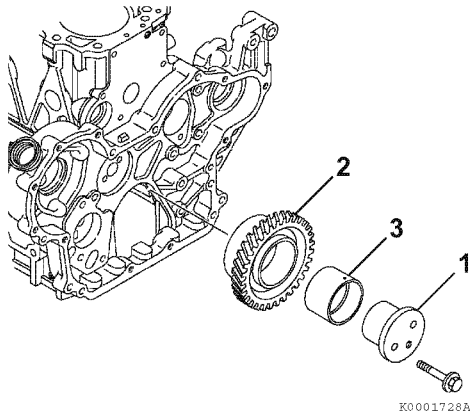

Figure 6-91
1. Remove the bolts from the idler gear shaft (Figure 6-91, (1)). Remove the idler gear shaft, idler gear (Figure 6-91, (2)) and bushing (Figure 6-91, (3)).